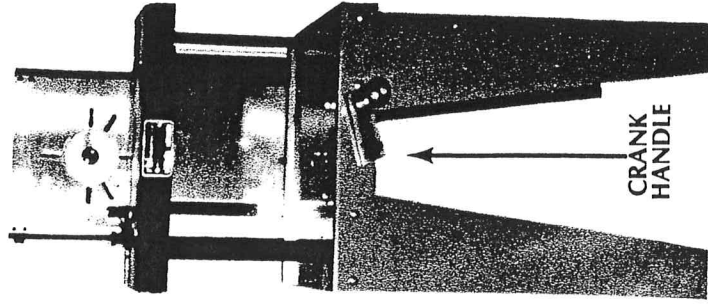

Fig. 1
1. Install crank handle to the 1/2" diameter crank handle shaft located in the base. (fig. 1)